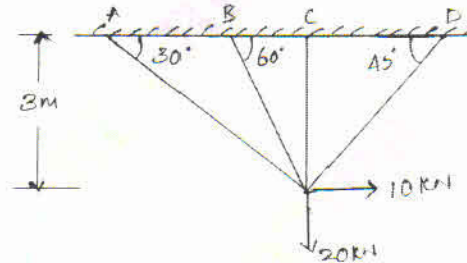

Fig.Q8
- 8 A pin jointed frame consists of four members connected as shown in Fig.Q8. Compute the forces in members using matrix stiffness method. Adopt transformation approach. Take  $E = 2 \times 10^5 \text{ N/mm}^2$  for all members. Area of members are equal.  $A = 1000 \text{ mm}^2$ . (20 Marks)